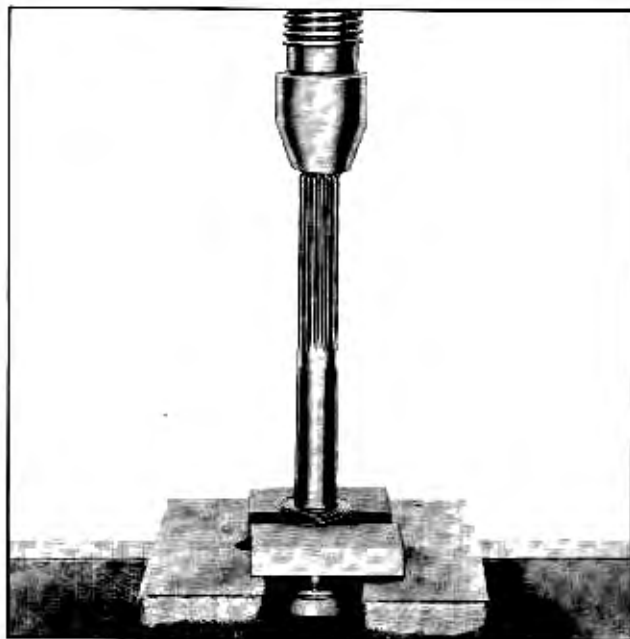

Fig. 7-22 Pressing Speedometer Drive Gear Off Main Shaft
1. Press off speedometer drive gear as shown in (Fig. 7-22).